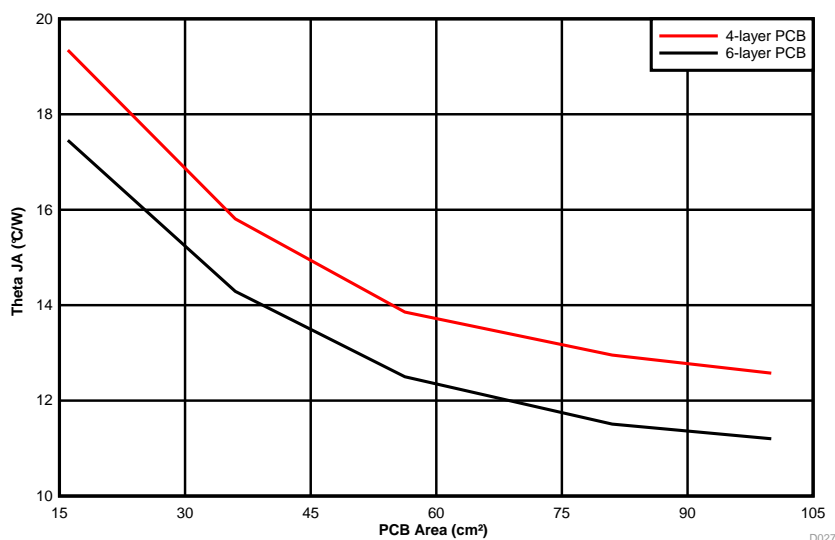

Figure 52. θ_{JA} vs PCB Area
The amount of PCB copper effects the thermal performance of the device. Figure 52 shows the effects of copper area on the junction-to-ambient thermal resistance ($R_{\theta JA}$) of the LMZM33606. The junction-to-ambient thermal resistance is plotted for a 4-layer PCB and a 6-layer PCB with PCB area from 16 cm² to 100 cm².
3. Reference Figure 52 to determine the minimum required PCB area for the application conditions.